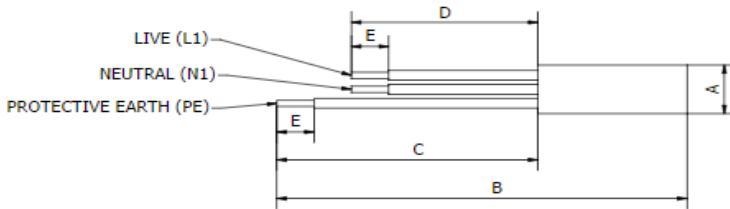
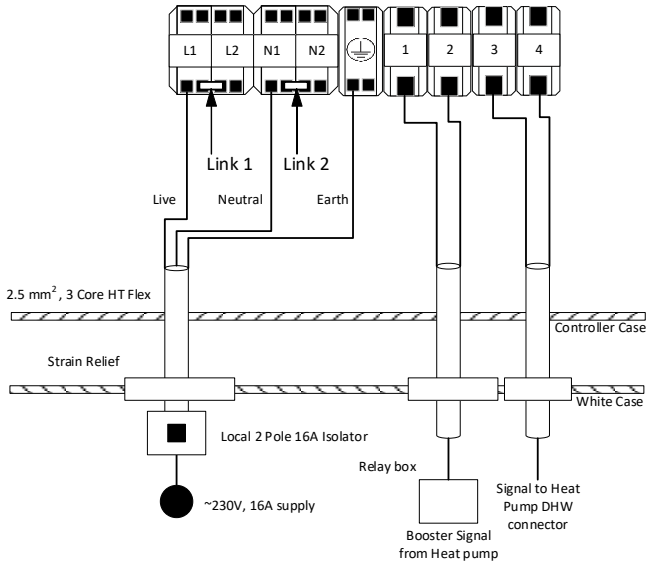

Figure 10: Wire length preparation diagram
Figure 12.2: Wiring Option 1 diagram – HW +iLTHP Samsung Low Temperature Heat Pump
- The mains power cable to the Sunamp Controller should be a minimum of 2.5mm², 3 core H05 VV-F sheathed cable, to BS 6500. This cable must be prepared according to Figure 10 (below), where the Green/Yellow (Protective Earth) wire is 15 mm longer than the Brown (Live) and Blue (Neutral) wires.
- Prepare the wire according to (Figure 10) and wire the mains power cable in the following terminals (Figure 12.2):
Wire the 2 core PVC insulated cable provided (C2295) from the Samsung “MIM-E03AN” Booster heater terminal connectors “L” & “N” (please refer to Heat Pump manual), run the wire into the relay box (C2291) provided into “TRIGGER INPUT AC” terminals (please refer to relay box instruction sheet). Then wire another 2 core PVC insulated cable provided (C2295) from the relay box terminals “NO1” & “C1” to the Heat Battery, into the control box housing through the opening available. Secure the cables in Terminal T1 & T2 independently (Figure 12.2). Please note that the polarity of the wires is not important in this wiring setup. Please ensure to use the provided relay backbox (C2292) & 2 x Cable grommets (C2296) when running the wires into the relay box.
- Using the Samsung Tank sensor part supplied “CNS042” with the heat pump, remove the sensor end, by cutting off the copper cylinder and strip the wire as required. Add the connector end into the Samsung “MIM-E03AN” (please refer to Heat Pump manual), then run the wire into the Heat Battery via the Heat Battery case cabling grommets and then into the control box housing through the hole available. Secure the cables in Terminals T3 & T4 independently (Figure 12.2).
- Prepare if necessary, the mains power cable and wire in the following terminals (Figure 10):